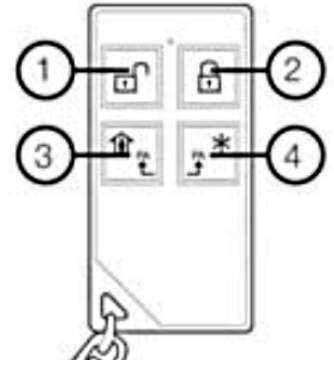

Figure 48. Keyfob Crow FW2-RMT-8F
2. **Keyfob** – delete the previous registration by pressing the ② and ③ buttons simultaneously. Registration – press ③ and ④ buttons simultaneously (see Figure 48);